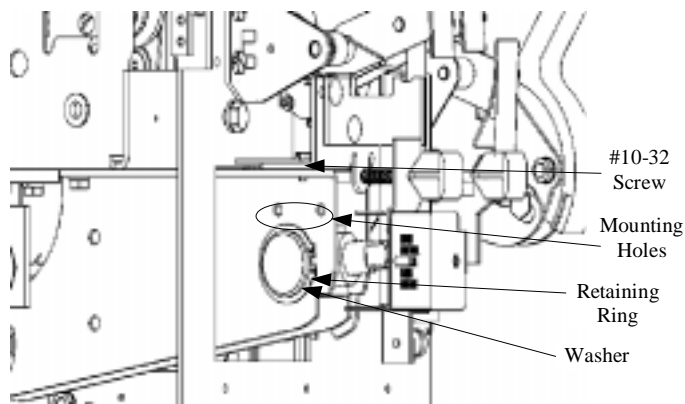

Figure 2. Small frame padlock provision mounting location.
3. **Small frame only.** Remove the #10-32 x $\frac{5}{8}$ " screw shown in Figure 2 and replace it with a #10-32 x $\frac{3}{8}$ " screw [6]. Remove the retainer ring and washer, then replace only the retainer ring.